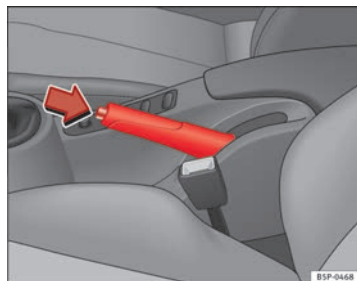

Fig. 150 Handbrake between the front seats
- Pull the handbrake lever up firmly ⇒ Fig. 150.
- Pull the lever up slightly and press the release knob in the direction of the arrow ⇒ Fig. 150 and guide the handbrake lever down fully ⇒ ⚠.